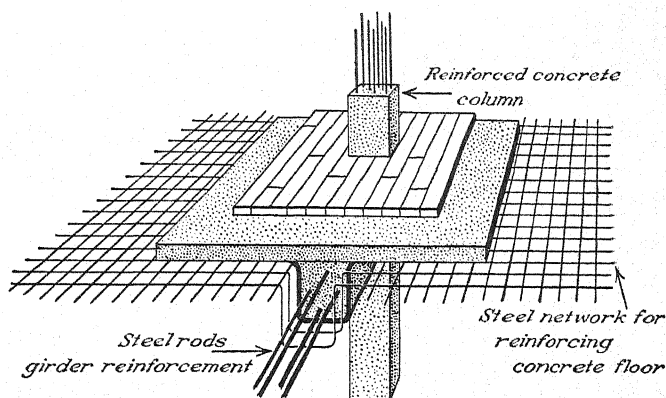

FIG. 277. — This sketch shows how steel rods are used to reinforce columns, girders, and floors.
*Reinforced concrete* is concrete that is strengthened by embedding in it rods of iron or steel. (See Fig. 277.) It is extensively used in structural work. (See Fig. 278.) Concrete is sometimes applied by means of an atomizer or cement gun. Figure 279 shows the use of such a gun for spraying the walls along a railroad cut. The United States produces about 100,000,000 barrels of cement annually. As timber